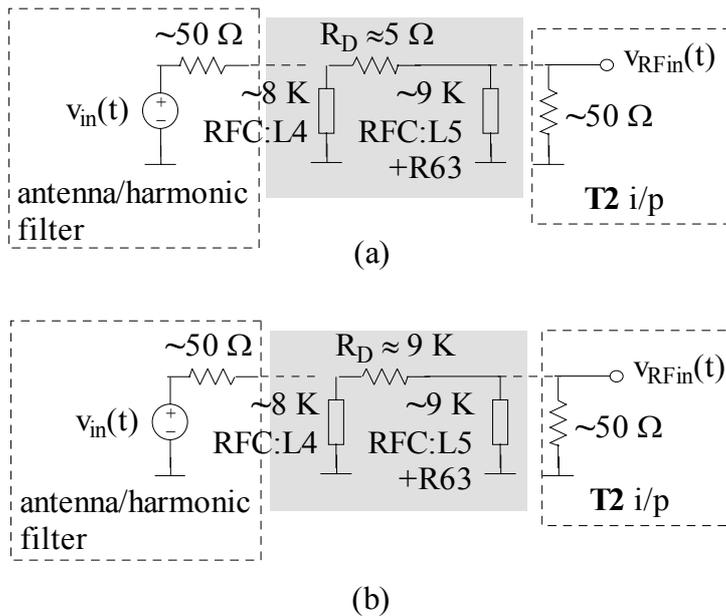

Figure 6.12 Equivalent circuit of RX RF attenuator at 16 MHz; (a) 10 mA bias current and (b) $14 \mu\text{A}$ bias current
With above considerations, the RF equivalent circuit the attenuator during reception is given in Figure 6.12.
7. Calculate the attenuation with 10 mA and 14 μ A bias current level in Figure 6.12, in dB. What is the *dynamic range*, i.e. the ratio between the two, of this attenuator?